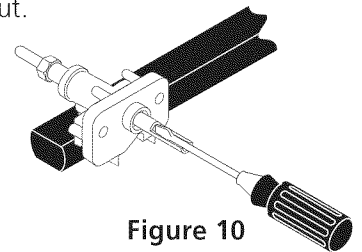

Figure 10
8.4 Adjust the "LOW" Setting of Surface Burner Valves (see Figure 10)
This range must be properly secured to the floor by using the included anti-tip brackets and screws. Failure to install the brackets could allow the range to accidentally tip over if excessive weight is placed on an open door or if a child climbs upon it. Serious injury might result from spilled hot liquids or from the range itself. Refer to the instructions below for proper installation (Figure 10).
Range may be anchored to floor in a house with hold down brackets as illustrated in Figure 10. These hold down brackets allow range to be freely pulled out from the wall for cleaning or servicing without the use of tools.